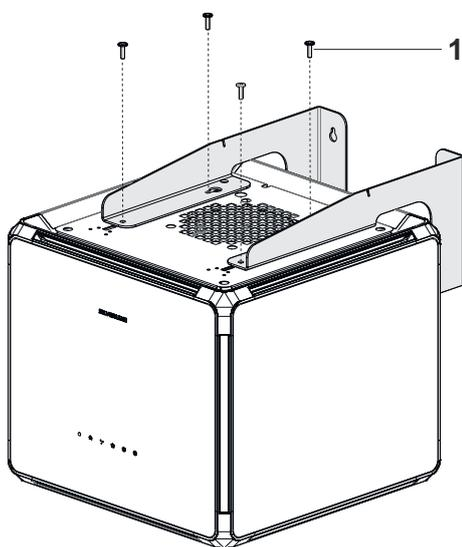

Fig. 17
1. ➤ Place the product on the hanger plates mounted on the wall (Fig. 17).
2. ➤ Install with M5 x 15 screws in the screw holes on the top of the product. (Fig. 17).